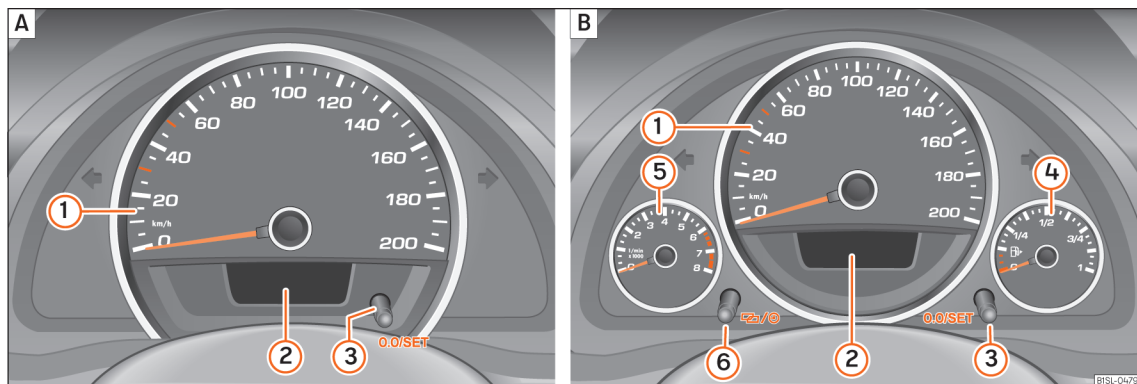

Fig. 96 Instrument panel, on the instrument panel: variant 1 (A) and variant 2 (B).
Details of the instruments » Fig. 96:
A variety of information can be viewed on the instrument panel display »» Fig. 96 , depending on the vehicle equipment:
The inspection message appears on the instrument panel display »» Fig. 96 ②.